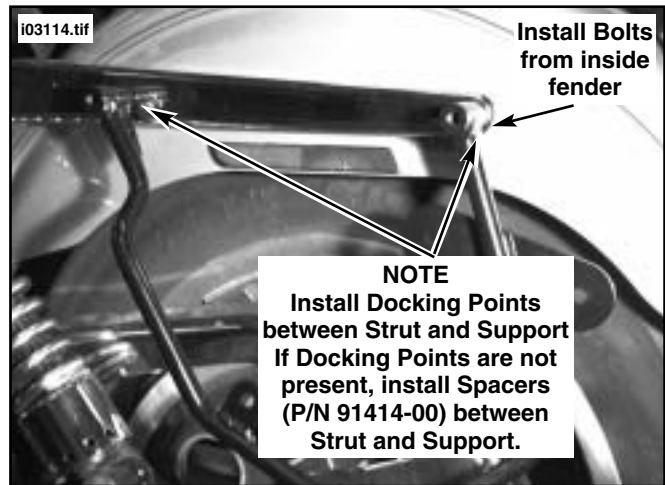

Figure 4. Install Saddlebag Support
- See Figure 4. Obtain left saddlebag support.